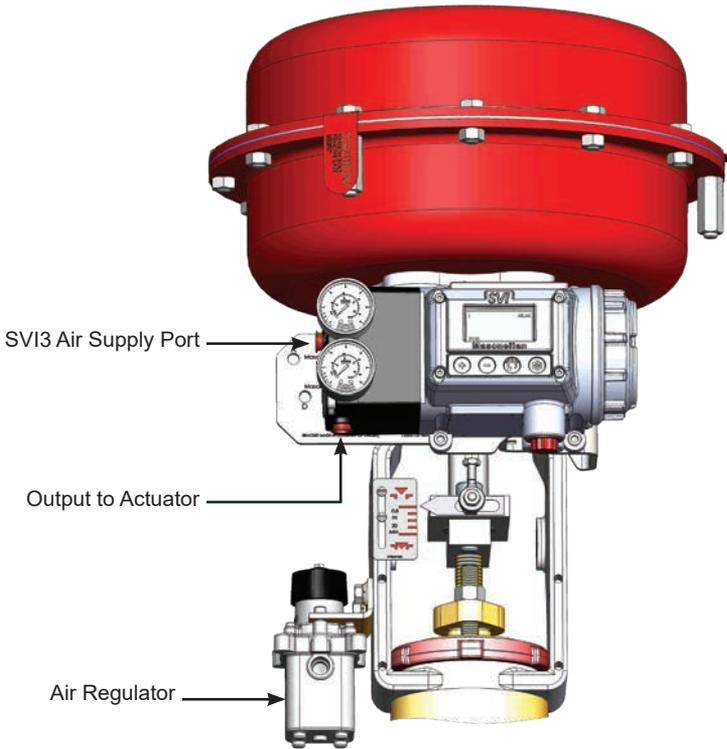

Figure 13 - Air Supply
1. Install the tubing to the SVI3 air supply port through air regulator as shown in Figure 13.